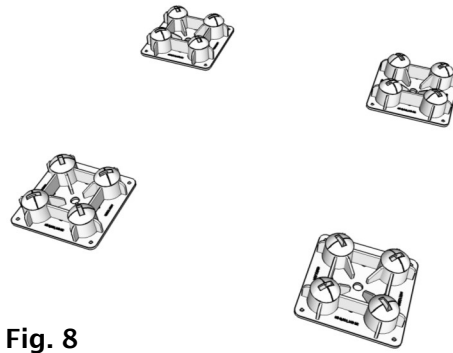

Fig. 8
Place 3 additional Piers (A) on grade and locate them with the Pier Template (F). (Fig. 8 & 9)
**NOTE:** the square printed on the Pier Template (F) indicates an outside corner.)